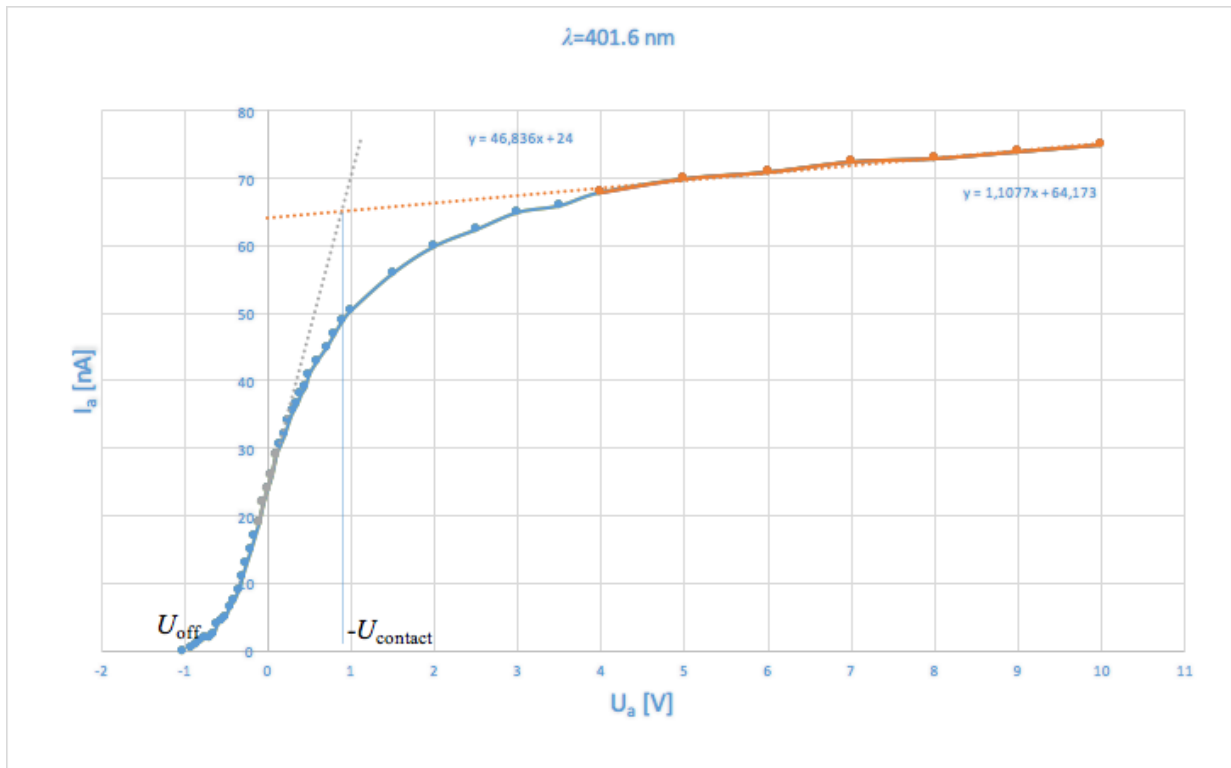

FIG. 2.
Usually constant positive  $U_a$  applied (about 15V). Due to the incident light the cathode is issuing electrons which are producing anode current proportional to the incident light flux. At a constant light flux (and wavelength) the current – voltage characteristics looks as it is shown in Fig. 2.
In the case of the real vacuum photodiode the materials of cathode and anode are different what results a work function difference between the electrodes. This work function difference results the so-called contact potential (marked with  $U_{\text{contact}}$  on the Fig. 2).
7. The switch-off potential to be calculated applying the best fit lines as it is shown on Fig. 2.